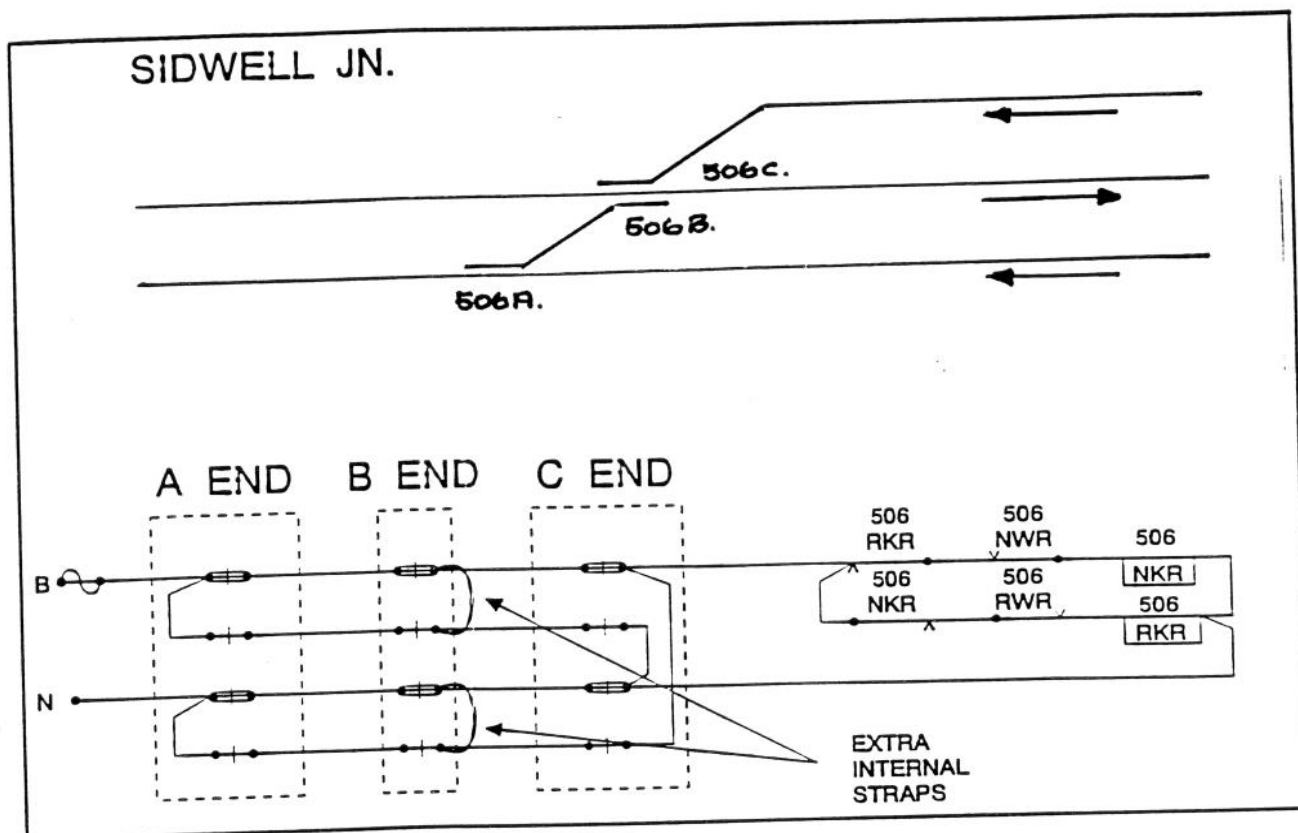

Figure 10 Detection Circuit With Short Circuit Wiring Errors
- 3) What would be the effect of the extra internal straps in Figure 10?